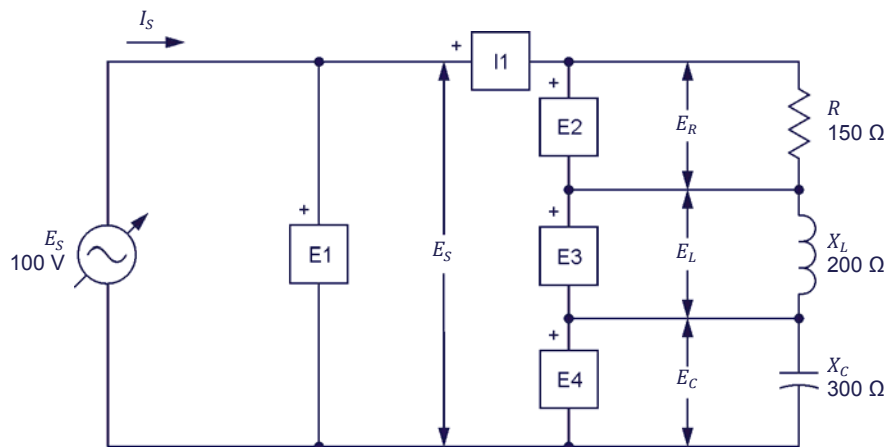

Figure 4-6. Series ac circuit containing a resistor, an inductor, and a capacitor, and set up for circuit analysis.
13. Set up the circuit shown in Figure 4-6.
- 14.** Resolve the entire circuit shown in Figure 4-6 using the impedance calculation method.